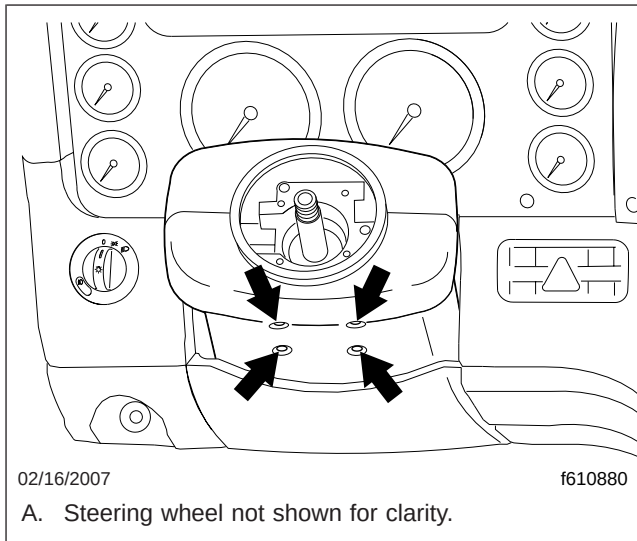

Fig. 1, Lower Steering Column Cover Fasteners
2. Remove the knee bolster panel, located below the steering column. Remove the four fasteners. See Fig. 1.